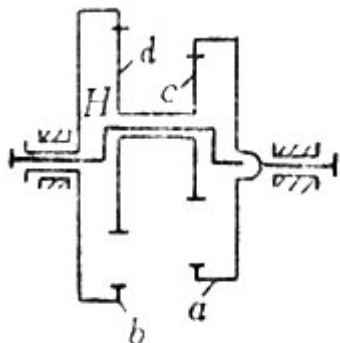

图 8-13
In planetary gear train, NN type gear train refers to 2K-H type gear train named after the type of gear pair (symbolically) (Figure 8-13). NN type gear train refers to single planetary gear train composed of two ring gears (N), one double planetary gears and one planet carrier. It belongs to positive mechanism. It has large transmission